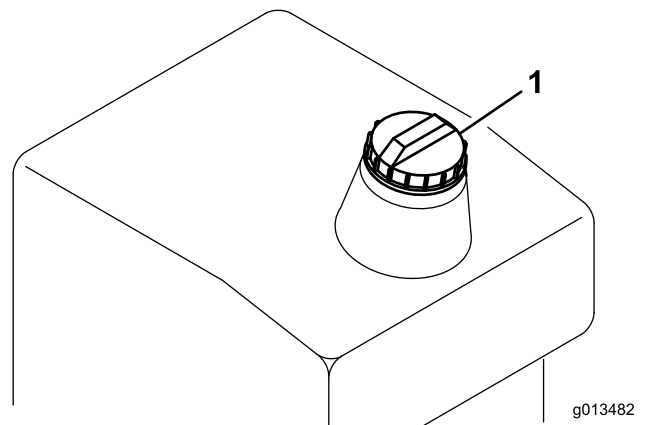

Figure 11
1. Clean the area around the fuel tank cap (Figure 11).